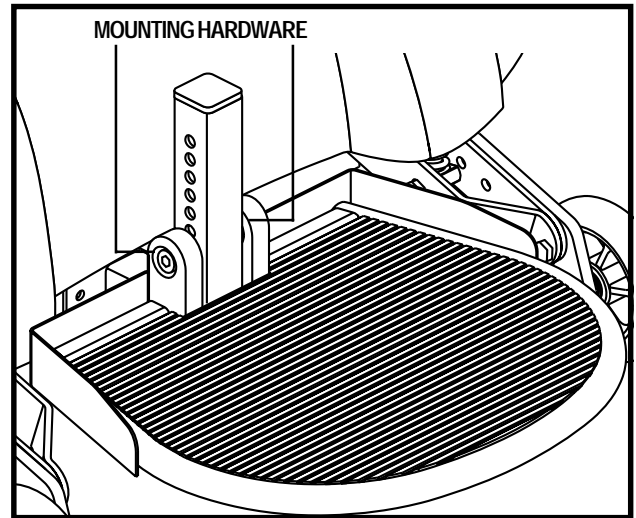

Figure 14. Foot Platform Height Adjustment
1. Use a hex key to remove the mounting hardware from the foot platform. See figure 14.